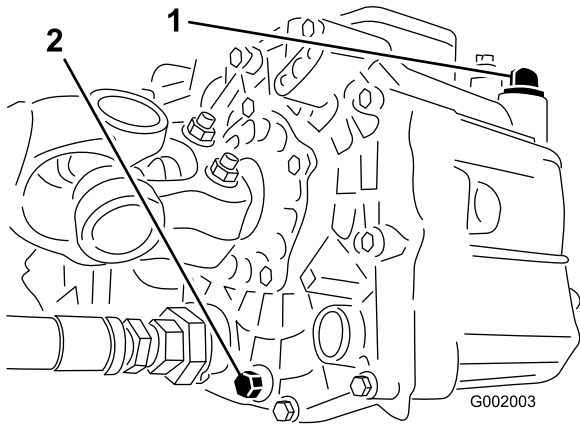

Figure 68
3. Remove the drain plug from the side of the reservoir and let the hydraulic fluid flow into the drain pan (Figure 68).